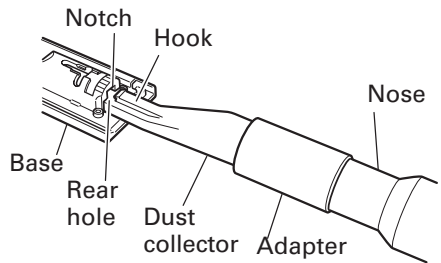

Fig. 21
- (6) Insert dust collector into the rear hole of the base until the hook catches in the notch. (Fig. 21)
- (7) Press the hook to remove the dust collector.